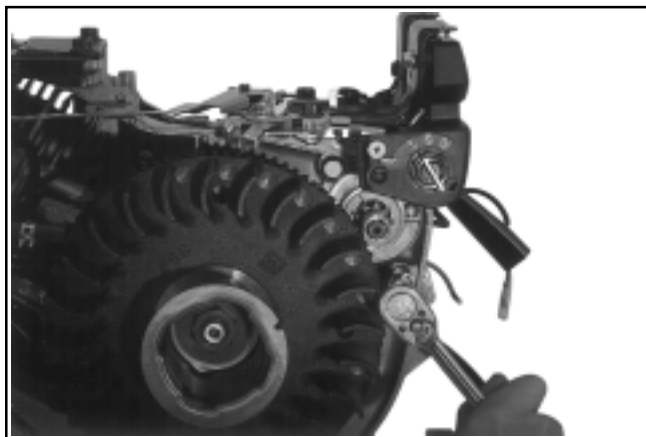

**Figure 9-28. Removing Control Panel Screws on CS8.5 (spec.95xxxx).**
3. On CS8.5 (spec. 95xxxx) remove the two screws securing the control panel and mounting bracket for the electrical components. See Figure 9-28.